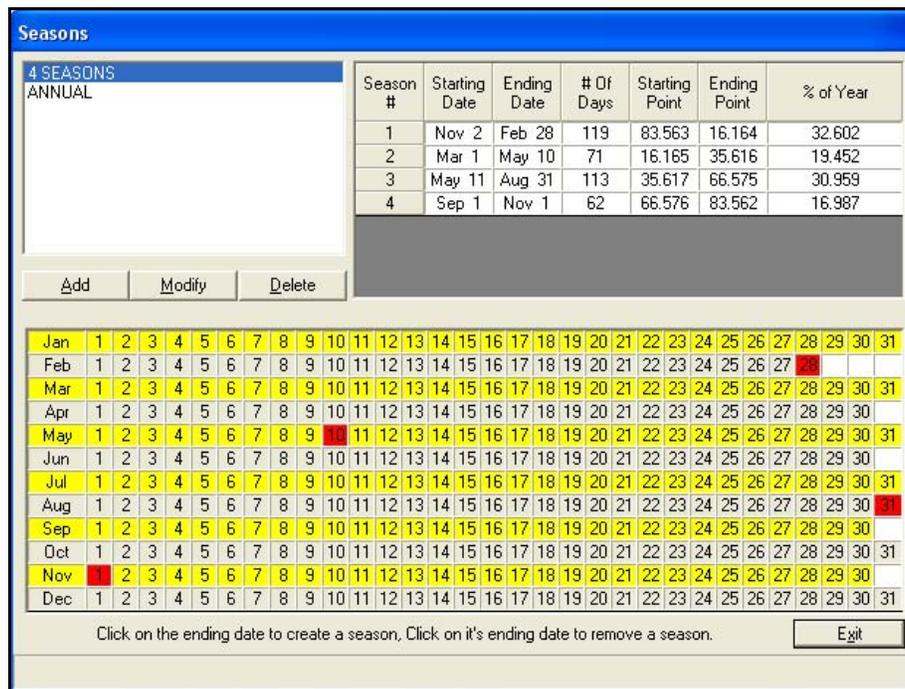
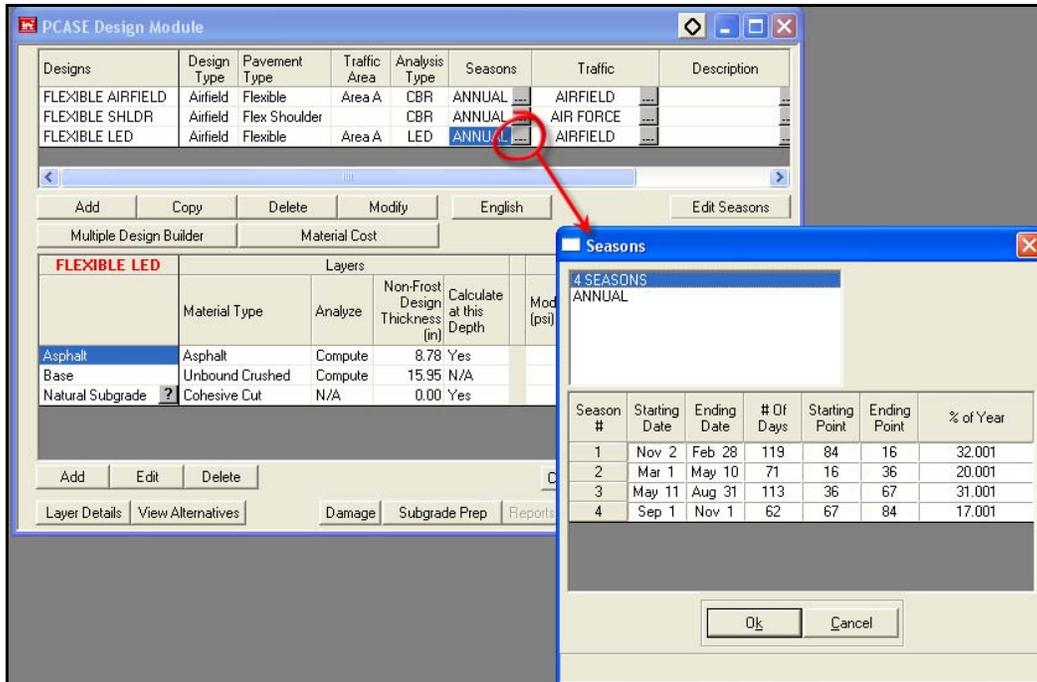

Figure 4-16. Creating a Calendar for LED Season Sets
Figure 4-17. Assigning a Newly Created Season Set
- (4) Enter a name to identify your season set (e.g., 3 seasons, 4 seasons, my seasons); then click **Ok**. You will then divide the year into various seasons. The easiest way to create the seasons is to click the **end date** of each season (e.g., Feb 28, May 10, Aug 31, Nov 1). PCASE will then assign a percentage of the year to each season (Figure 4-16).
- (5) When you have completed building a season set, click **Exit** to return to the PCASE Design Module window.
- (6) On the PCASE Design Module window, click the ... (dot-dot-dot) button in the Seasons column of the design grid to assign the newly created season set to your design (Figure 4-17).
(7) When the Seasons window displays (Figure 4-17) select the appropriate season set and then click **Ok**. The Seasons window closes and the season(s) you created is applied to the appropriate design on the PCASE Design Module window.